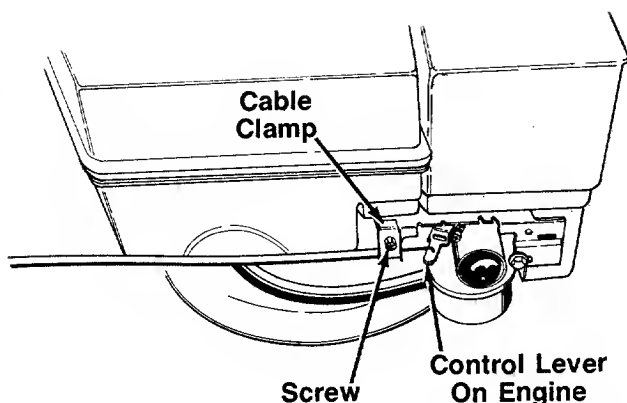

FIGURE 7.—Tecumseh Engine
2. The throttle control cable is attached to the upper handle. Route the throttle control cable under the lower handle and inside the handle mounting bracket. Hook the "Z" end of the throttle control cable into the control lever on the engine as shown in figure 7.
3. Loosen (do not remove) the screw on the cable clamp shown in figure 7. Slip the control casing under the clamp (cable must move freely beneath the clamp).